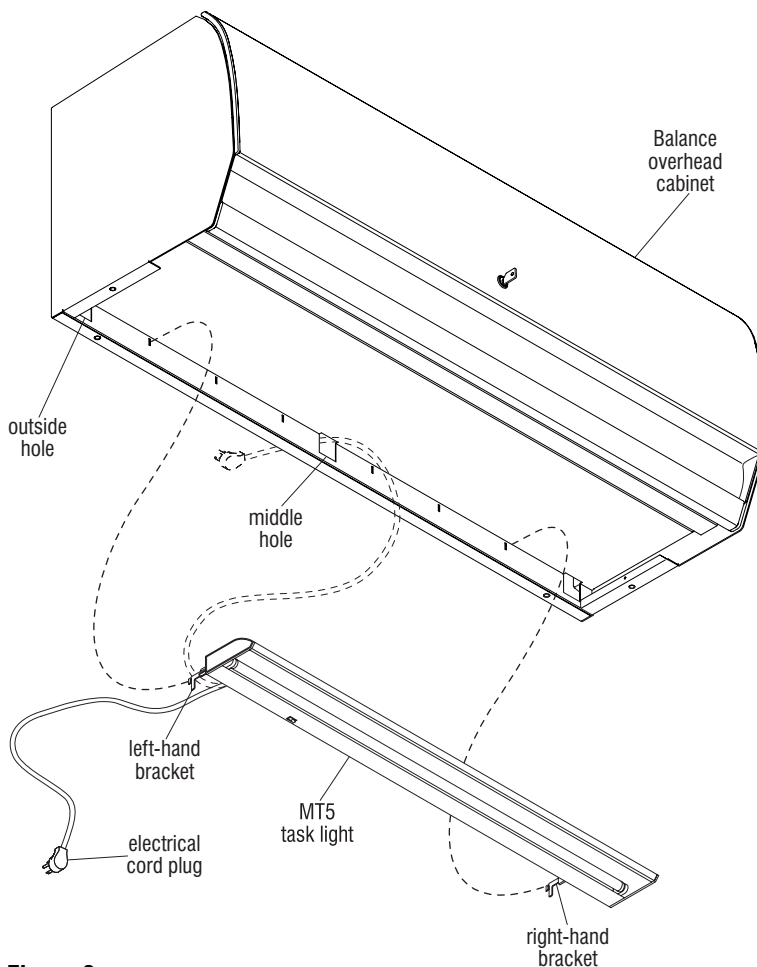

Figure 9
3. Before installing the task light to the cabinet, insert the electrical cord plug through the middle square hole in the overhead trough back as illustrated (Figure 9).
4. Hook the task light assembly brackets into the slots in the trough under the cabinet which are appropriate for the size of overhead unit and light (Figure 9).